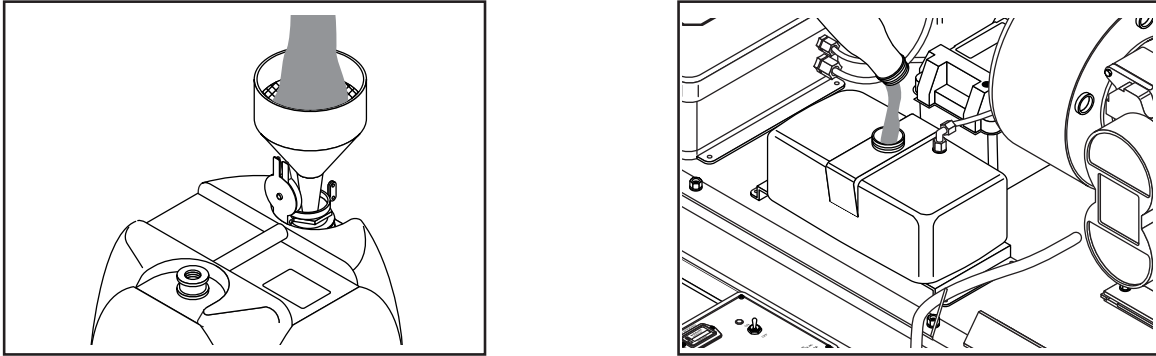

Figure 6- Filling Insecticide Tank and Flush Tank
7. Service the insecticide tank with the appropriate insecticide. Always use a funnel with a strainer screen when adding insecticide to the tank. Reference Figure 6.
8. Place flushing solution in the flush tank. Reference Figure 6.